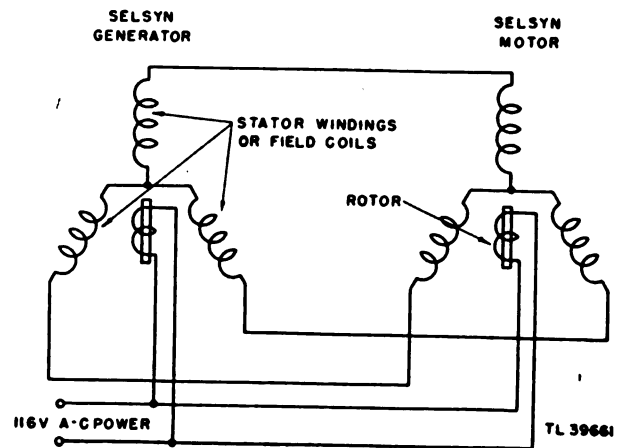

Figure 129. Simple selsyn system, schematic diagram.
*a. THEORY OF OPERATION OF SIMPLE SELSYN SYSTEM.* Figure 129 shows a schematic diagram of a simple selsyn system. As shown in the diagram, the selsyn motor or generator consists of a motor with three field windings which are  $120^\circ$  apart and a rotor with a single winding on it. The coil on the rotor is excited by the 116-volt a-c power supply. With the rotor resting in any given position, the three field coils of the selsyn generator have voltages induced in them whose magnitude is proportional to the position of the rotor coil with respect to the three field coils. The amount